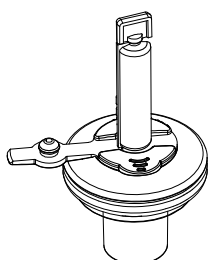

Figure 5: Filling the nebulizer unit
| Figure 5: Filling the nebulizer unit | 9 |
2. Use a prefilled ampoule or syringe to add liquid into the filler port of the nebulizer (Figure 5).